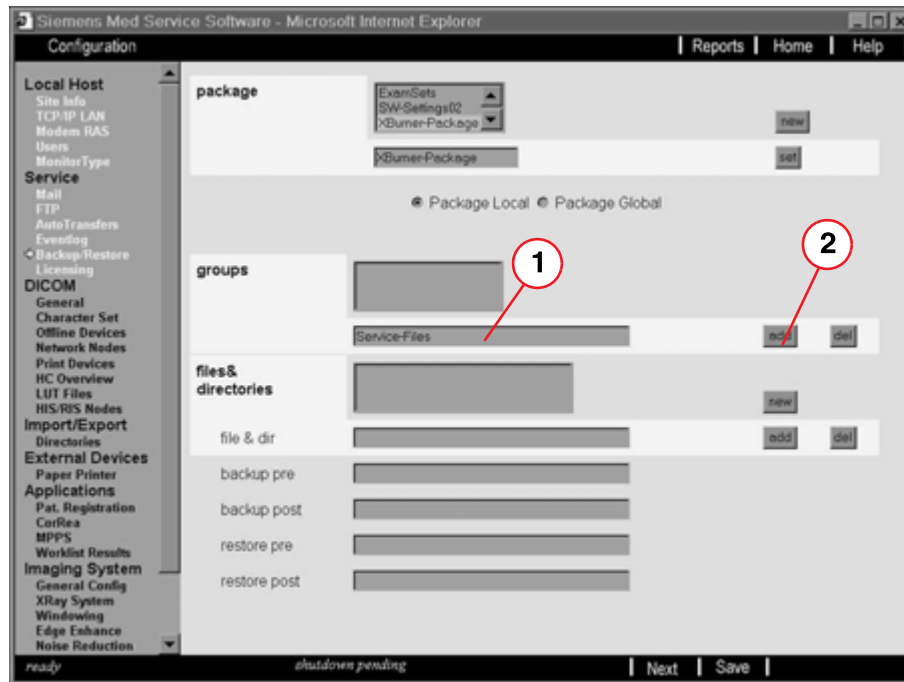

Fig. 55: Configuration_Service_Backup/Restore_Service files
- Enter "Service files" (1/Fig. 55 / p. 57) under "Groups" and accept this entry by clicking on the "Add" button (2/Fig. 55 / p. 57).